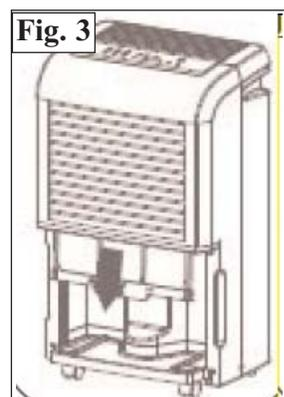

Fig. 3
- 1) Pull the air filter out gently (Fig. 3).